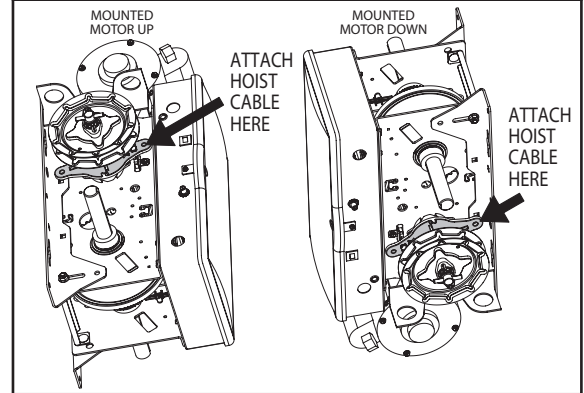

Figure 11
- With operator installed motor **DOWN**, attach hoist cable to cam arm hole closest to mounting plate. **Fig. 11.**
- With operator installed motor **UP**, attach hoist cable to cam arm hole closest to electric box. **Fig. 11.**